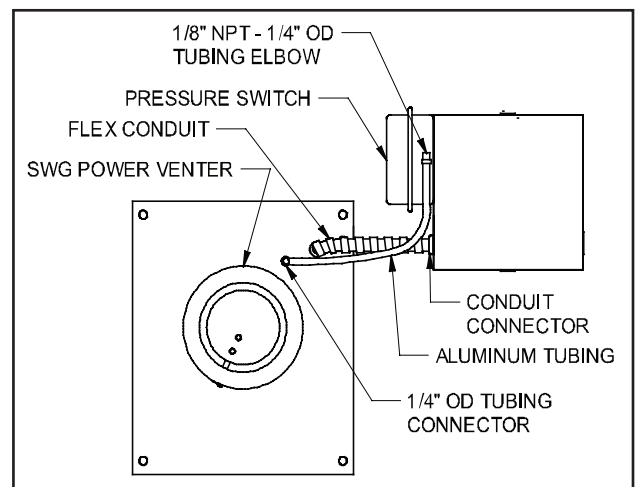

Figure 3
2. Fasten the flexible conduit from the SWG Venter into the conduit connector. Mount the CK-43 junction box or installer supplied junction box onto the wall or floor joist without straining the flexible conduit. Fasten the CK-43 junction box through the four dimpled locations on the base of the box. (See Figure 3)
1. Attach the 1/4" tubing connector to the pressure tube on the SWG Venter. (See Figure 3)